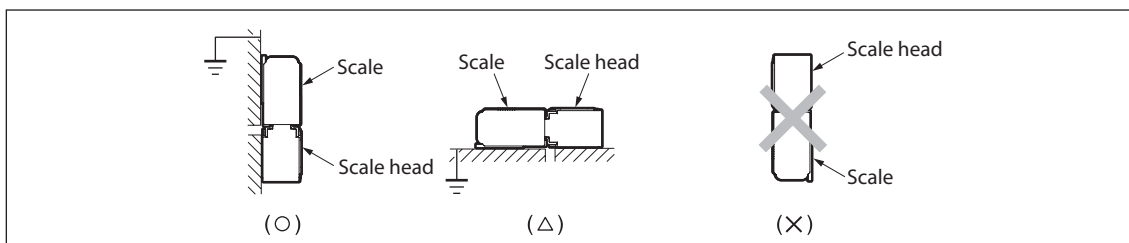

Fig. 3-2
- The scale head will be damaged if the scale head is moved outside the effective length (ML). The scale head must always be moved within the effective length.
- Install the scale unit so that the scale is on the upper side of the scale head. If the upper side is not available, set it to face horizontally. (Fig. 3-2)